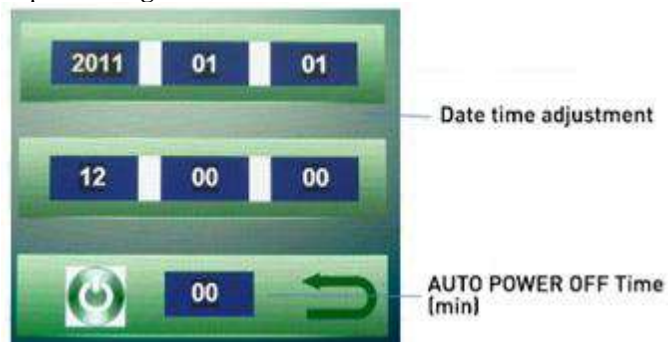

Figure 8
16. Adjust the date and the time and the AUTO POWER OFF Time as show in the below picture. **Fig. 8**